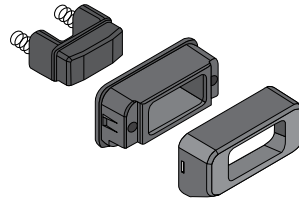

Figure 42: Parts of the door catch
Step 1 - Assemble the door catch in the order shown in Figure 42. Ensure the springs remain in place.